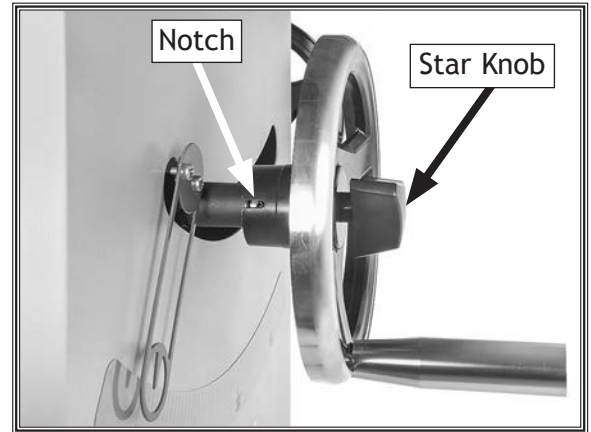

Figure 15. Handwheel properly installed.
5. Install handwheels on shafts, making sure notch in each handwheel fits over pin on each shaft, as shown in **Figure 15**, and then secure with star knobs.